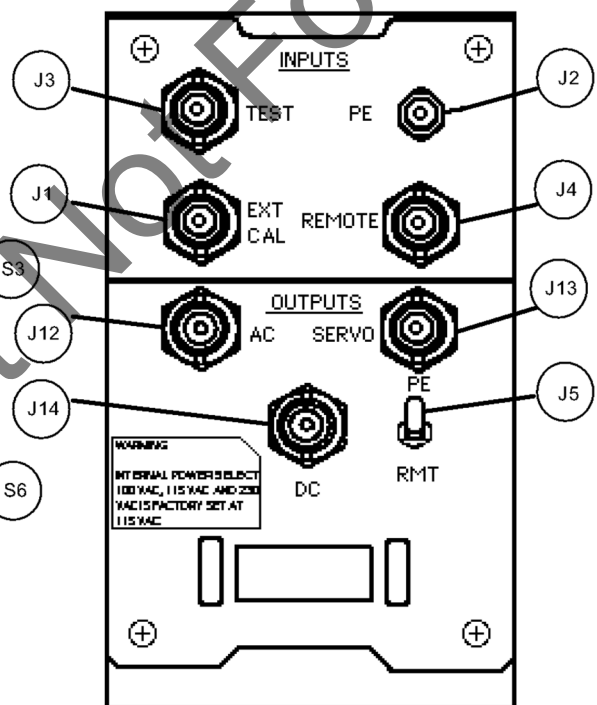

FIGURE 5-2: REAR PANEL CONTROLS
- B. On the back panel (Figure 5-2) set the INPUT MODE switch (J5) to PE.